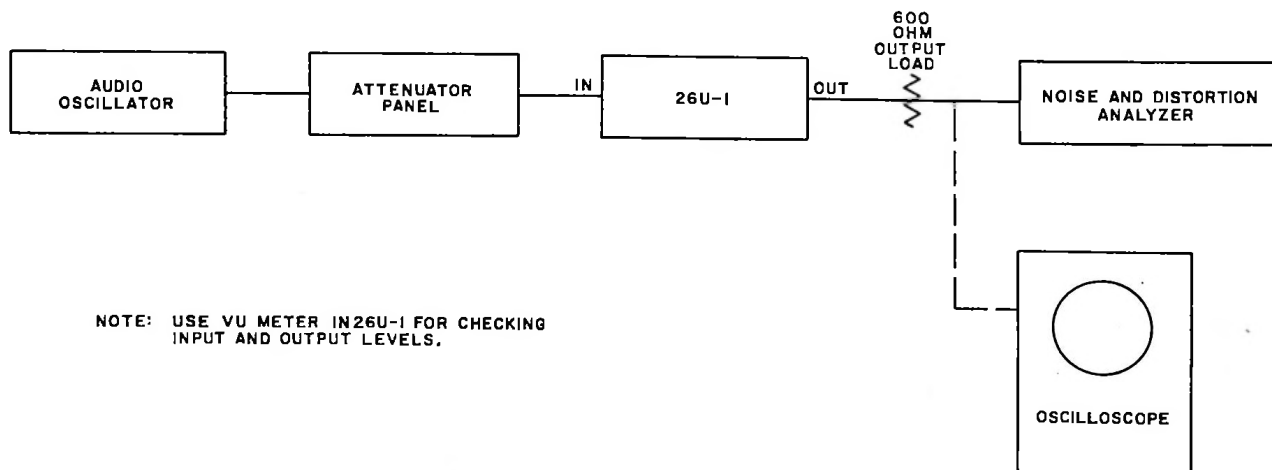

Figure 5-1. Test Setup, Block Diagram
- d. Connect the audio oscillator to the input of the 26U-1 through the Daven attenuator panel with at least 10 db attenuation inserted. (See test setup, figure 5-1.)